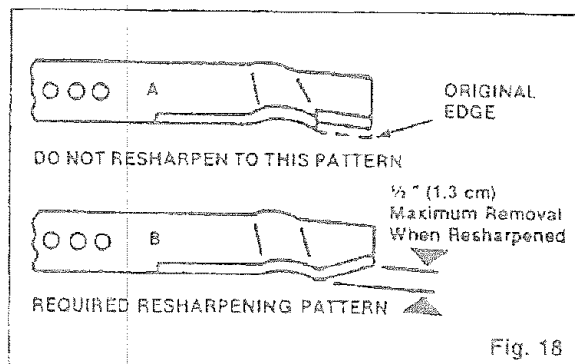

Fig. 18
- When sharpening the cutting edges of the blade, do not follow the original angle of grind as shown in "A" of Figure 18. Instead, grind new cutting edges on a diagonal as shown in "B." Make sure that each cutting edge receives an amount of grinding necessary for the blade to remain balanced.
WARNING: INCORRECT RESHARPENING OF CUTTER BLADE AS DISPLAYED IN "A" OF FIGURE 18, COULD CAUSE THE BLADE TIPS TO BREAK OFF AFTER A SUDDEN IMPACT OF THE BLADE WITH A FOREIGN OBJECT DURING OPERATION. BROKEN PIECES OF THE BLADE THROWN FROM THE MOWER COULD INFLICT SERIOUS BODILY INJURY.